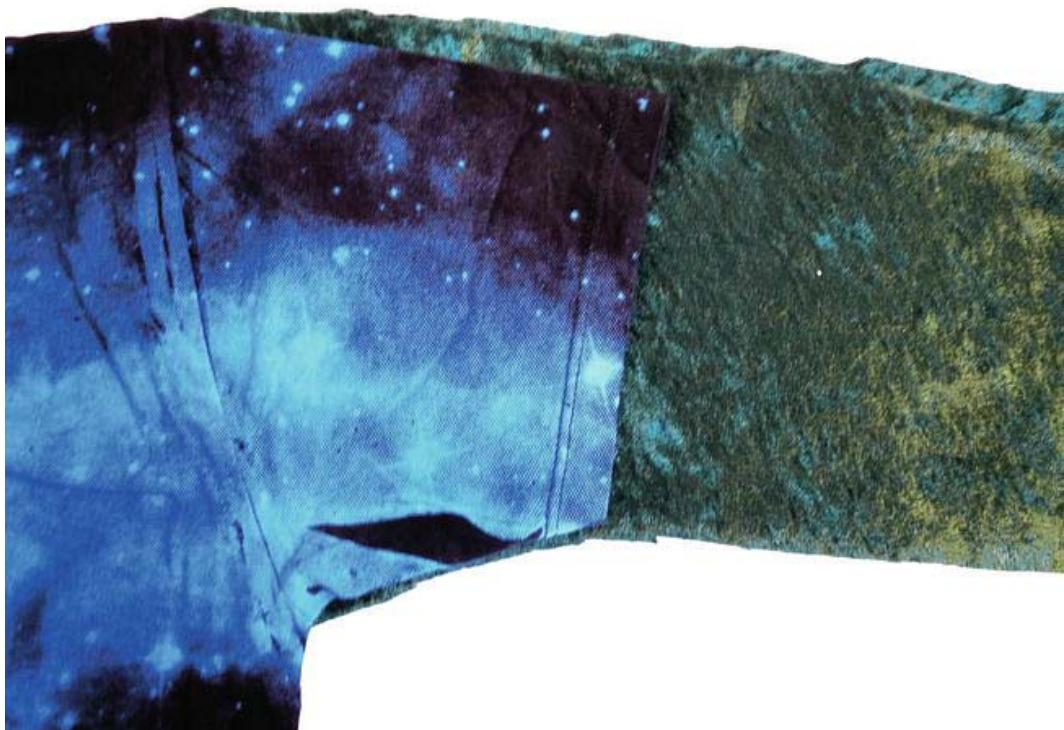

Figure 9-3. Cutting the arm pieces
- *The arms (pieces 4 and 5).* Use the T-shirt's arm to get the shape where the arm is stitched to the hoodie. Extend the shape for the arm to fit the length of your arm and then cut the shape on folded fabric, adding about 2 centimeters to the bottom of the arm. Make the fold of the fabric at the top of the arms (top being the edge that joins the shoulders, as shown in Figure 9-3). Now you should have one piece of fabric. When you later stitch the horizontal bottom edges together, you will have a tube that is the arm. Once you are done with the first arm, repeat the process for the opposite arm.